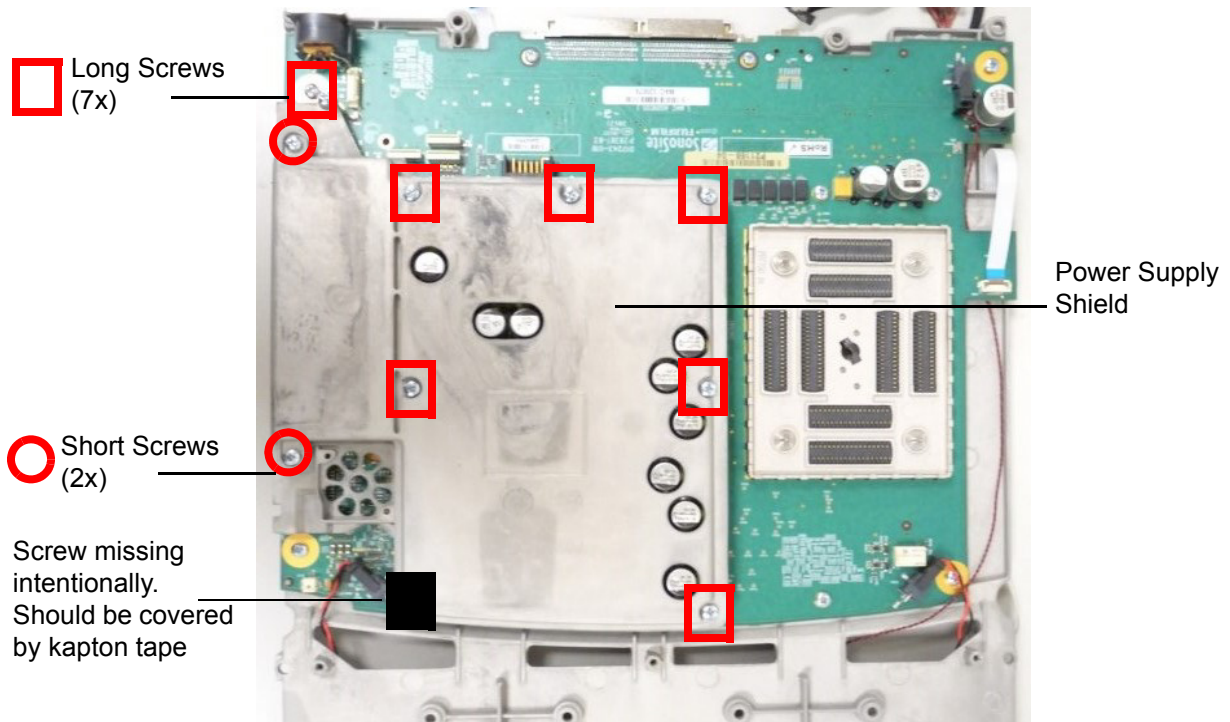

Figure 6.16 Power Supply Shield
- 1 Remove Seven long screws and two short screws securing the digital shield lid. Please note the location of the 2 short screws as seen in Figure 6.16 . Also note the location marked with the black box. The screw hole should be empty and covered with kapton tape. Do not place a screw in this location. Remove lid and set aside.